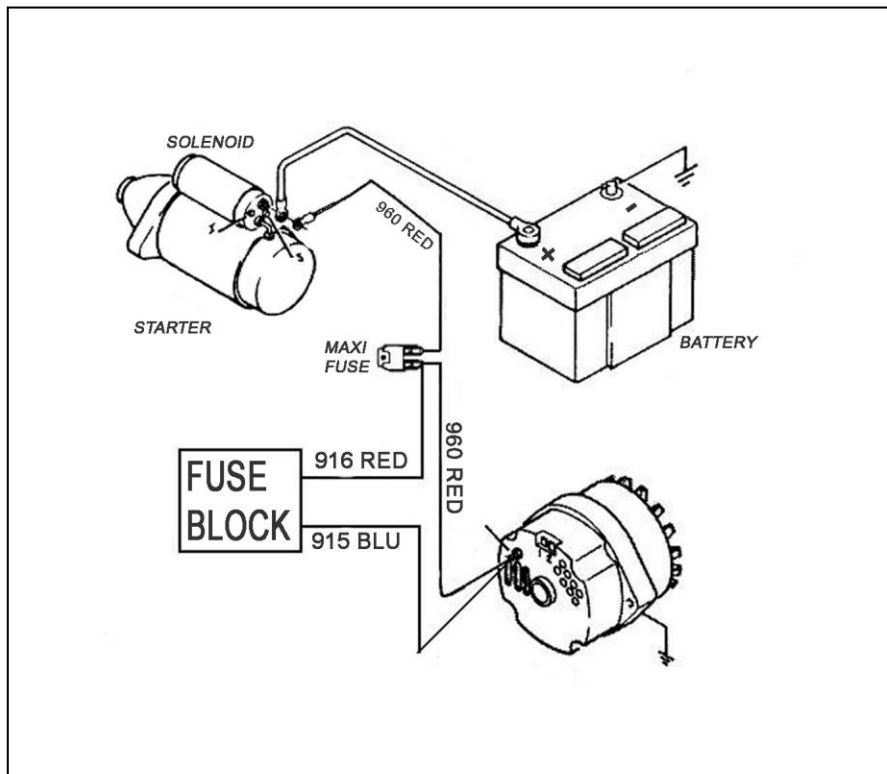

Figure 7-1B High Output Wire
- CAUTION: IF USING AN ALTERNATOR WITH AN OUTPUT LARGER THAN 65 AMPS, YOU WILL ALSO NEED TO USE JUMPER WIRE #960 (RED), INCLUDED IN BOX. THE WIRE END WITH THE RING TERMINAL AND RUBBER BOOT WILL CONNECT TO THE ALTERNATOR OUTPUT LUG. ROUTE THE OTHER END TO THE STARTER. CUT THE WIRE AND CRIMP ON A RING TERMINAL. INSTALL ON SAME TERMINAL OF MAXI FUSE AS #916 RED. SEE FIGURE 7-1B.**
- 7.1.3** Connect a 14-gauge wire from the Alternator terminal where wire #914 is connected to either of the ELECTRONIC Voltage Regulator terminals OR terminal (I) of the MECHANICAL Voltage Regulator. On existing Mopar harnesses, this would be a blue wire.